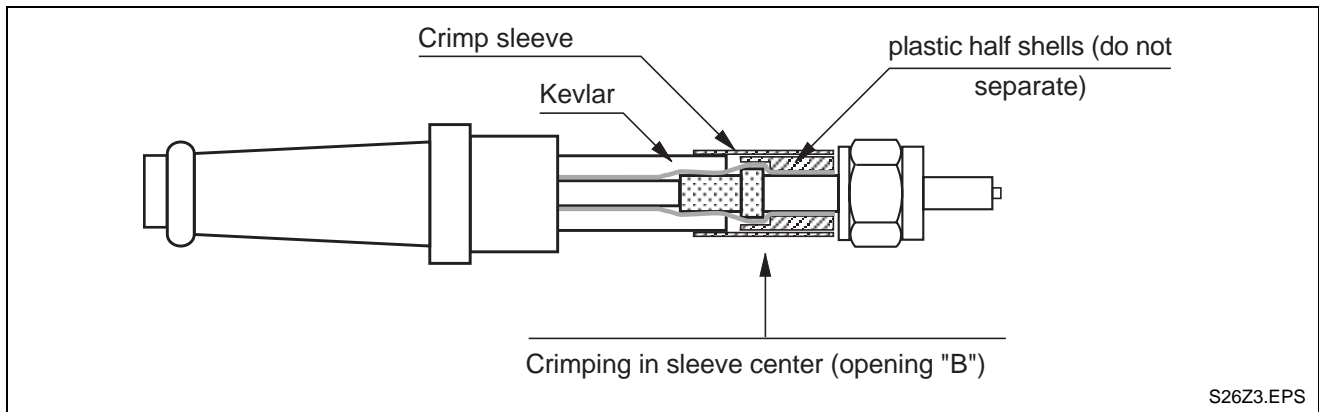

Fig. 7-10: Crimp instructions
- ⇒ Place plastic half shells, do not separate these, around kevlar and connector pins as shown in Fig. 7-10.